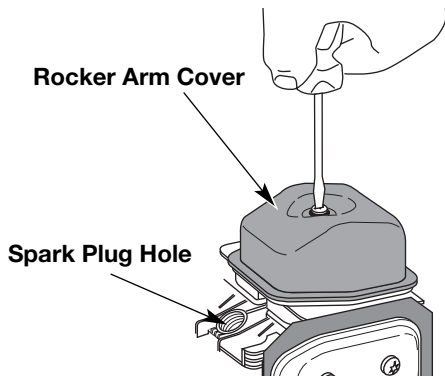

Fig. 36
- Clean dirt from around the rocker arm cover. Remove the screw holding the rocker arm cover with a large flat blade screwdriver or Torx T-25 bit (Fig. 36). Remove the rocker arm cover and gasket.
- The piston is at the top of its travel while looking in the spark plug hole (Fig. 36)